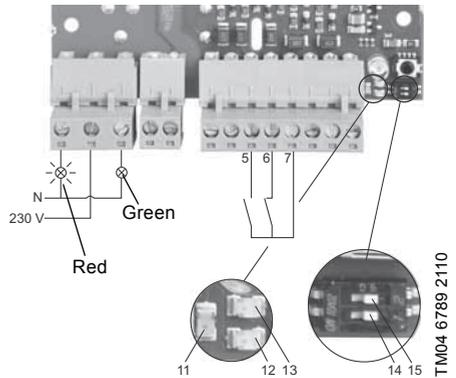

Fig. 9 Detection of high water level
See fig. 9.
Use terminal (pos. 6) when an NC contact is to be used to indicate high water level. See fig. 9.
The green indicator light indicating normal operation is off. LED1 (pos. 11) flashes. The number of flashes indicates the current alarm. See section 7.1.1 System alarms and warnings and fig. 9.